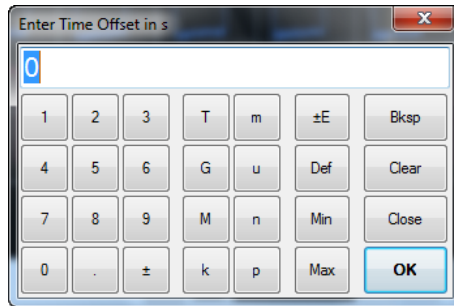

Figure 2-18 Horizontal offset keypad dialog
- 6 The horizontal offset keypad dialog is displayed as shown in Figure 2-18.